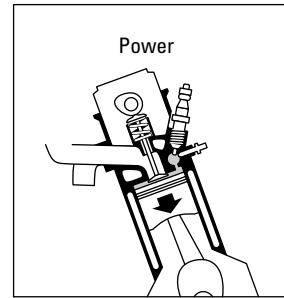

Figure 9-8: Power stroke.
- ✔ **Stroke 3: Power stroke (see Figure 9-8).** With the intake valve and the **exhaust valve** closed, the fuel ignites, and combustion forces the piston down. This driving power is transmitted through the **transmission** and the rest of the **drive train** to the wheels, causing the vehicle to move.